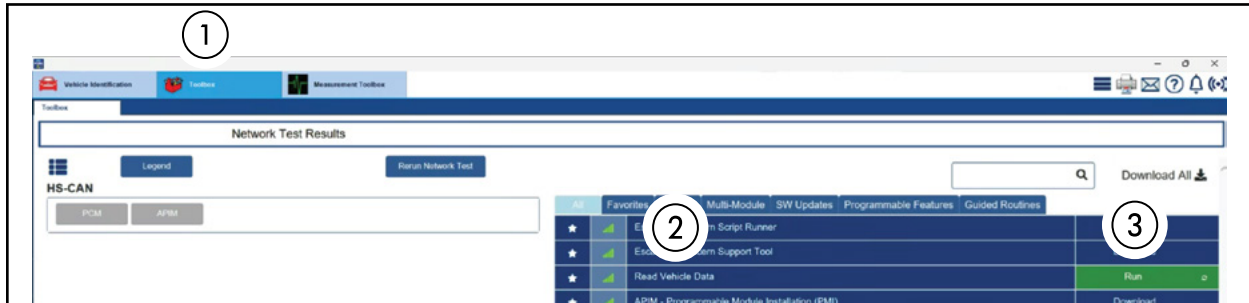

FIGURE 2
7. Select **Toolbox** (1) tab.
8. Select **All**. See Figure 2.
9. Select **Read Vehicle Data** (2) and then **Run** (3).